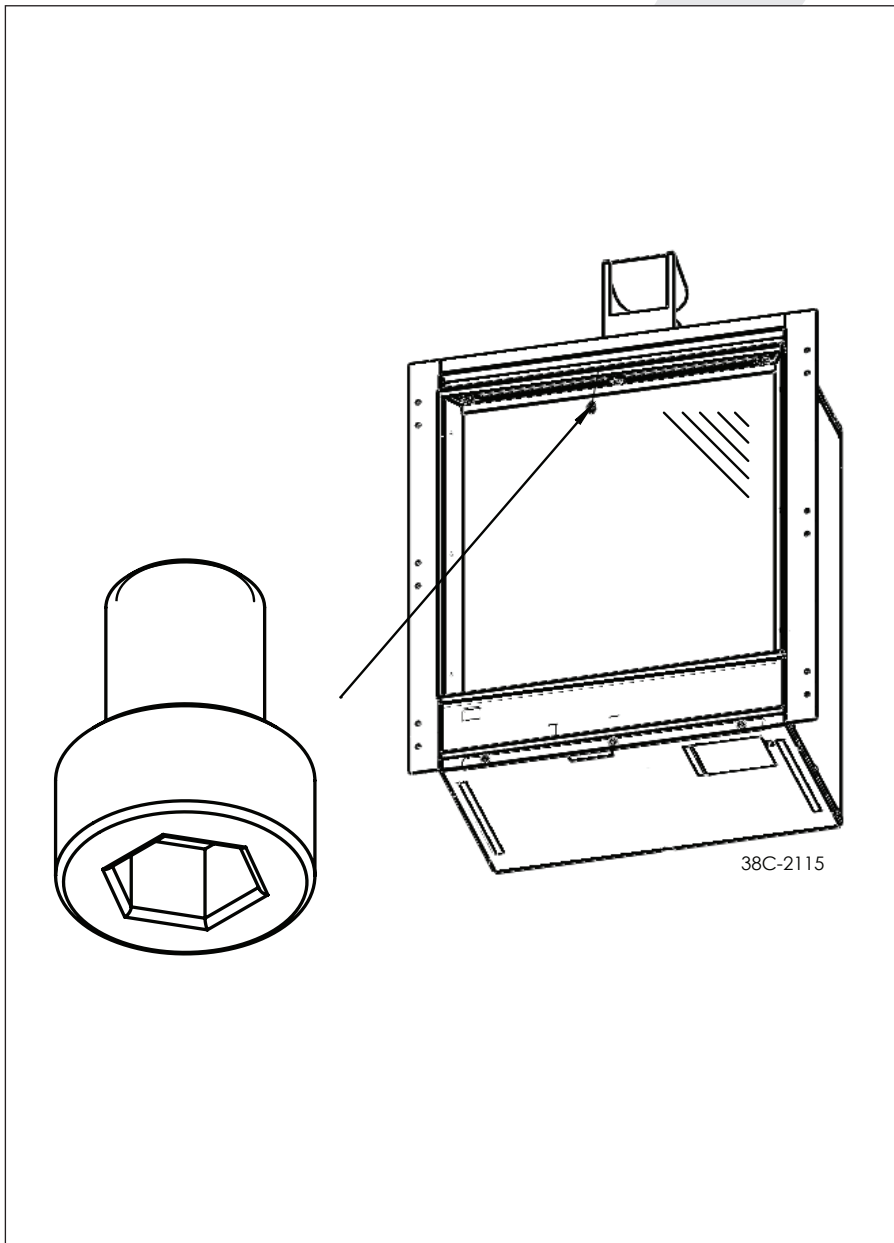

Fig. 6
- Connect the pressure meter using a silicon tube to the appliance connection (see figure 6)